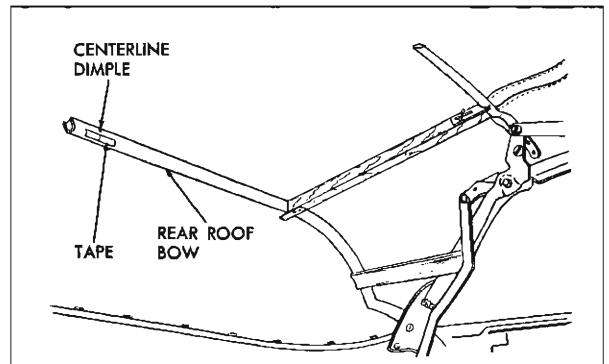

Fig. 21-50 Marking Rear Roof Bow
27. Along forward surface of rear roof bow install a 1" piece of tape at centerline dimple of rear roof bow. Using a pencil, mark centerline of rear bow on tape (Fig. 21-50).
**NOTE:** The deck seam mark will vary slightly ( $\pm 1/4$ "") depending upon position of rear roof bow. Also check centerline mark on inner lining of top material. Mark should correspond to centerline mark on rear roof bow (see Fig. 21-50).